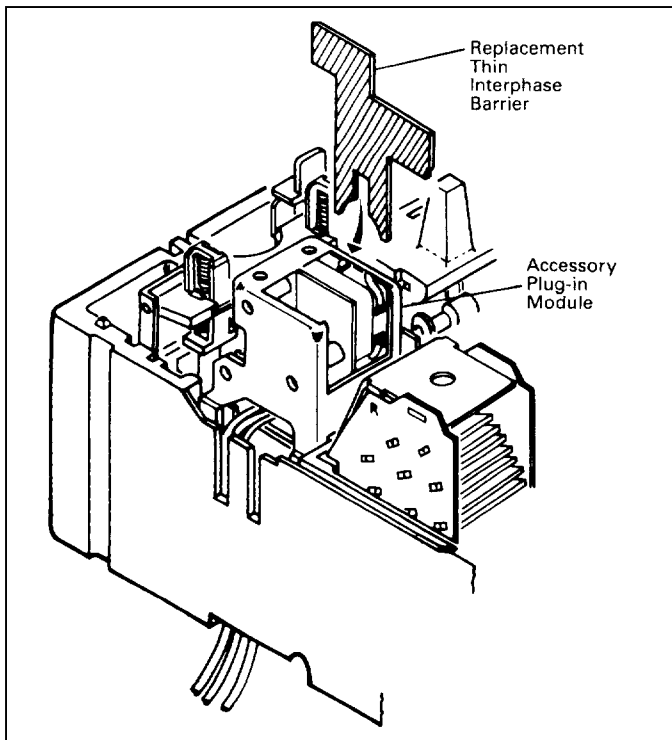

Fig. 2-9. Interphase Barrier Installation
- a. Slide thin replacement interphase barrier into position between thick interphase barrier and molded bearing. (See Fig. 2-9.)